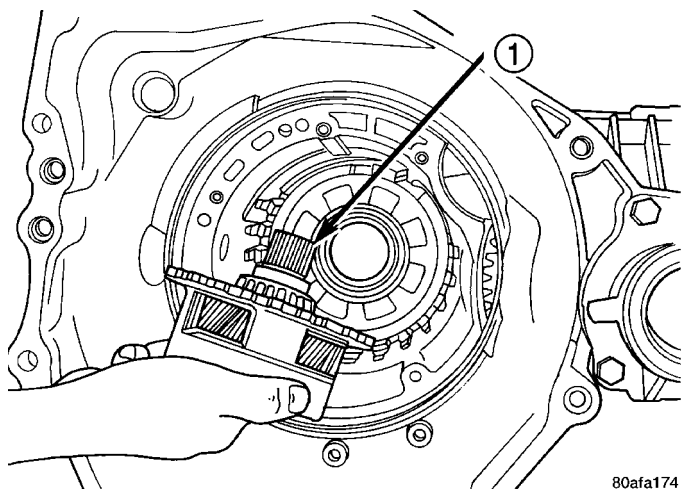

Fig. 70 Remove Rear Carrier Assembly
(54) Remove rear carrier assembly from transaxle (Fig. 70).